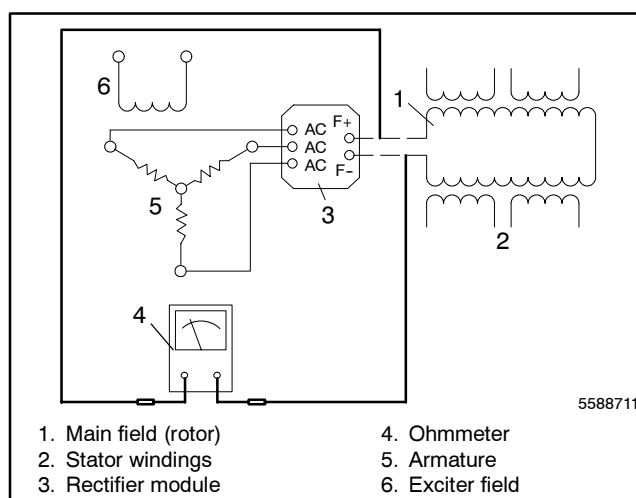

Figure 7-11 Ohmmeter Connections on Main Field
3. Check the main field resistance by connecting an ohmmeter across the main field F+ and F- leads. See Figure 7-11. The resistance reading for a cold main field should be approximately 2.5–4.5 ohms. A low reading indicates an internal short and a high reading indicates an open winding. Replace the main field if the ohmmeter readings indicate that the main field is inoperative.